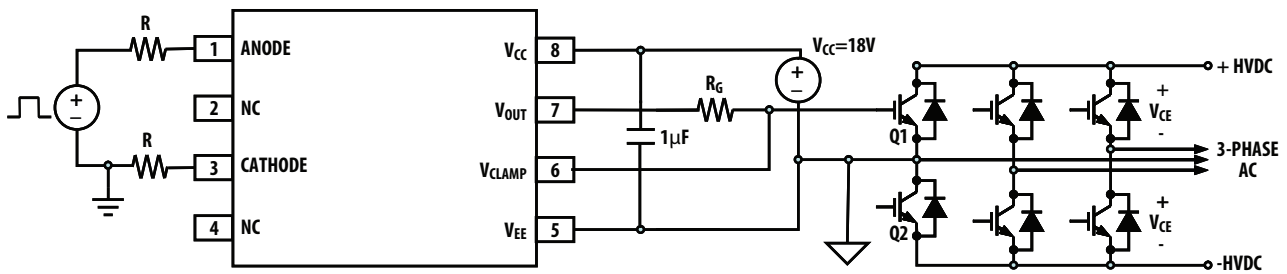

Figure 33. Recommended application circuit with split resistors LED drive and active Miller Clamp.
The recommended application circuit shown in Figure 33 illustrates a typical gate drive implementation using the ACPL-H342. The following describes about driving IGBT. However, it is also applicable to MOSFET. Designers will need to adjust the  $V_{CC}$  supply voltage, depending on the MOSFET or IGBT gate threshold requirements (Recommended  $V_{CC} = 18V$  for IGBT and  $12V$  for MOSFET).
**Step 1:** Calculate Rg minimum from the IOL peak specification. The IGBT and Rg in Figure 33 can be analyzed as a simple RC circuit with a voltage supplied by ACPL-H342/K342.